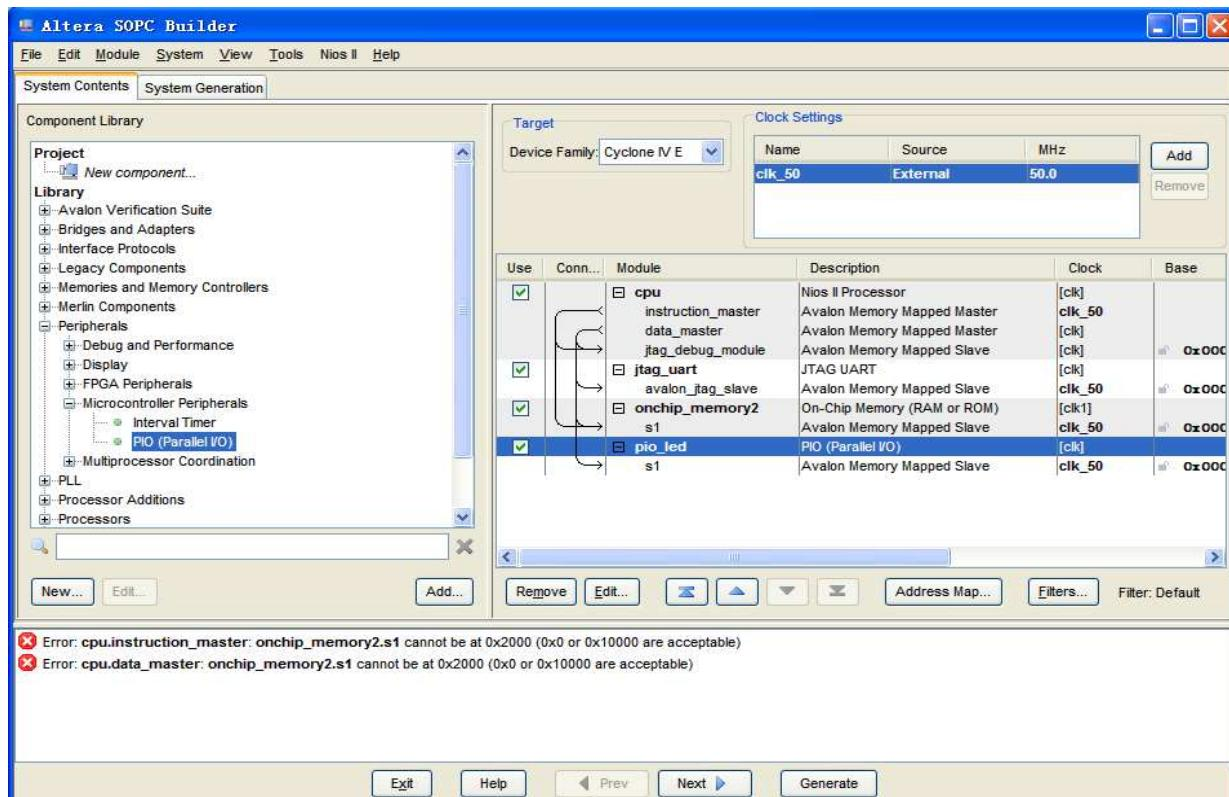

Figure 7-33 Rename PIO
21. Rename **pio_0** to **pio_led** as shown in **Figure 7-33**.